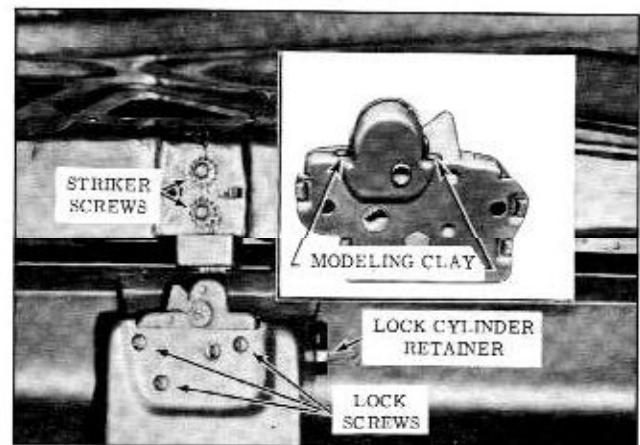

Fig. 17-89 Rear Compartment Lid Lock and Striker
2. Remove lock cylinder retainer and remove lock cylinder assembly. (Fig. 17-89)
2. Remove lock cylinder retainer and remove cylinder assembly. (Fig. 17-89)
3. Remove lock attaching screws and lock assembly. (Fig. 17-89)
1. Insert a small quantity of modeling clay on frame of lock at both sides of the lock bolt as shown in inset of Fig. 17-89. Close lid with moderate force.